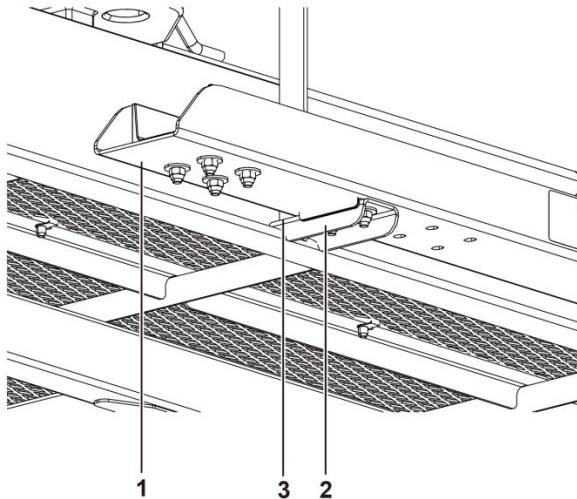

Figure 9-3
- 4) Fix the panel support to the bottom of the panel bracket, with the front and bottom of the support in contact with the round tube of the platform, as shown in Figure 9-3.
- 6) Adjust the gap between the panel bracket and the support using the adjusting gaskets, and tighten them with fasteners, as shown in Figure 9-3.